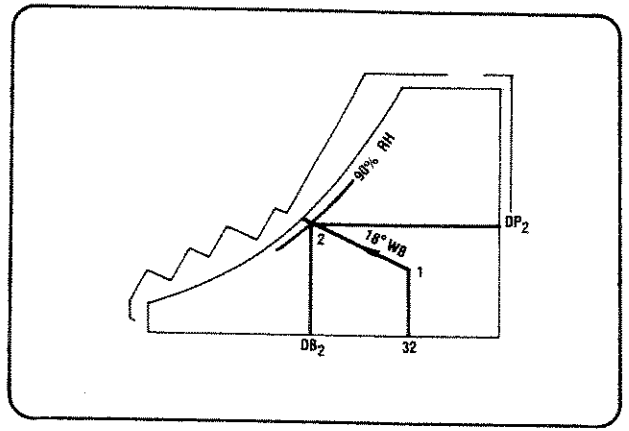

FIGURE 6
- Problem 6: Evaporative Cooling Refer to Figure 6.